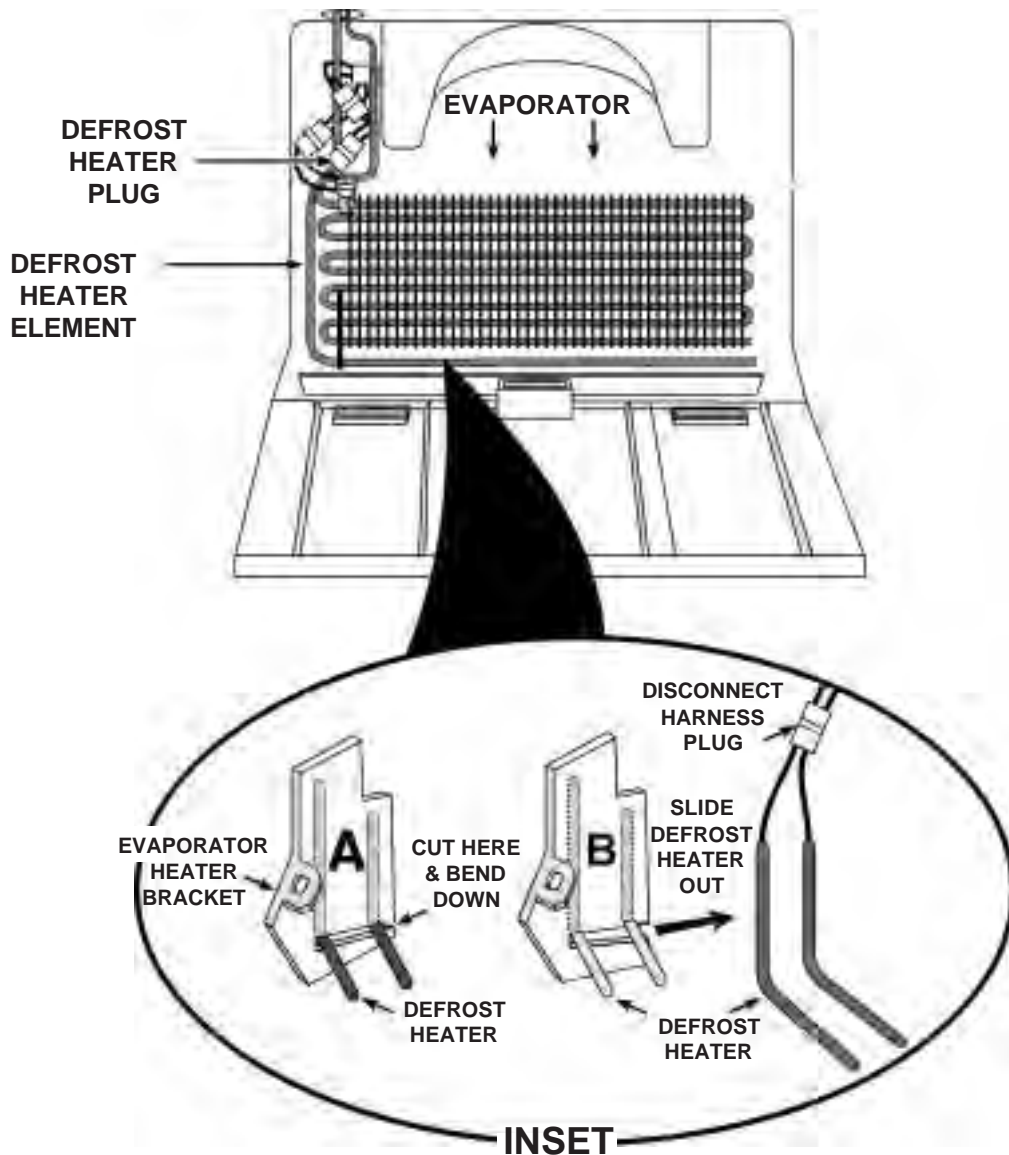

Fig. 55
1. Disconnect the defrost heater wiring connector from the wiring harness plug. (Fig. 55, Inset)
2. Cut the bottom of the left defrost heater bracket with a pair of metal-cutting shears. (Fig. 55, Inset)
3. Bend the bottom of the bracket DOWN and remove the end of the heater. (Fig. 55, Inset)